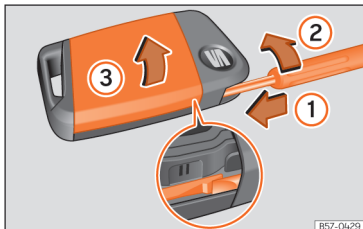

Fig. 46 Vehicle key: opening the battery compartment.
- Insert a flat blade screwdriver into the vehicle key, through the outer guide of the emergency key, approx. 1 cm in the direction of the arrow >>> Fig. 46 ①.
- Turn the screwdriver clockwise until the cover opens >>> Fig. 46 ②
- Open the cover in the direction indicated by the arrow >>> Fig. 46 ③ and remove it >>> ①.